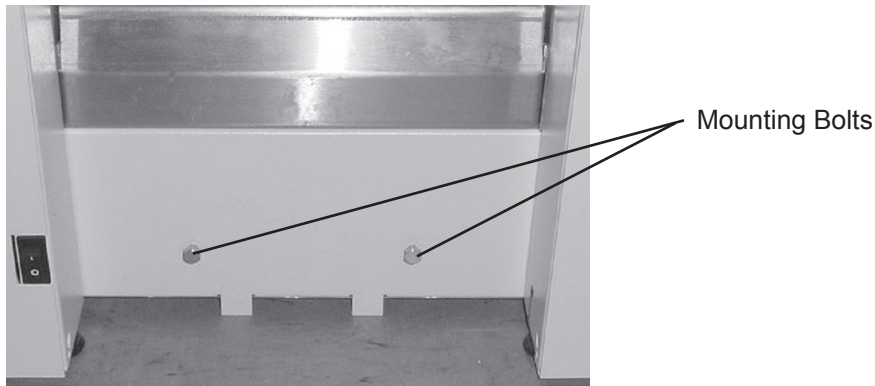

Fig. 19
5. Install the conveyor mounting bolts. (Fig. 19)